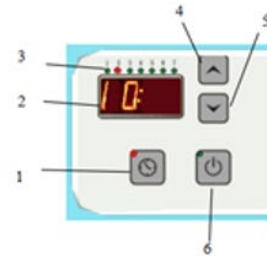

Fig. 6-2
- Click ⌚ Key (1) to accept the weekday selection and then select the hour by using Key (4) or (5) (Fig. 6-2).